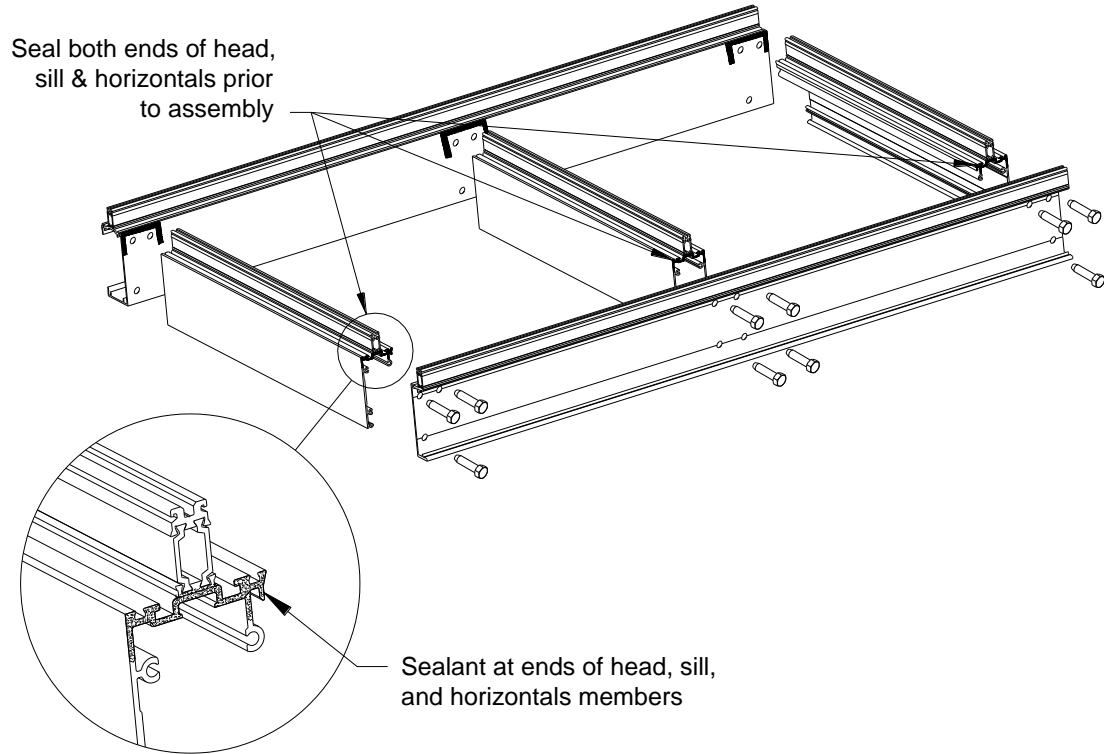

Figure 9A: Vertical to Horizontal Attachment
- 5.2 Clean with Isopropyl alcohol and apply sealant to ends of horizontals prior to attaching to verticals. Attach to verticals with FS-8 #14 x 1" Hex Head screws. Three screws are required at each head and sill; four are required at intermediate horizontals. **See FIGURE 9A.** Tool excess sealant at horizontal-to-vertical joints